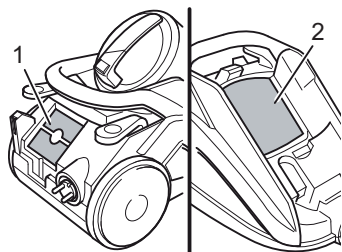

Fig. 26
- **Hygienic exhaust filter (Fig. 26/1)**
- **Motor protection filter (Fig. 26/2)**
5010001	1 Protective motor filter (Fig. 26/2), 1 Hygienic exhaust filter (Fig. 26/1)